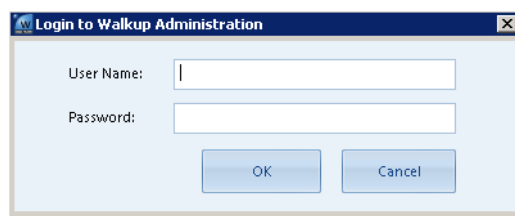

Figure 27 Login to Walkup Administration dialog box
- 2 Type your **User Name** and **Password** in the **Login to Walkup Administration** dialog box (see **Figure 27**).